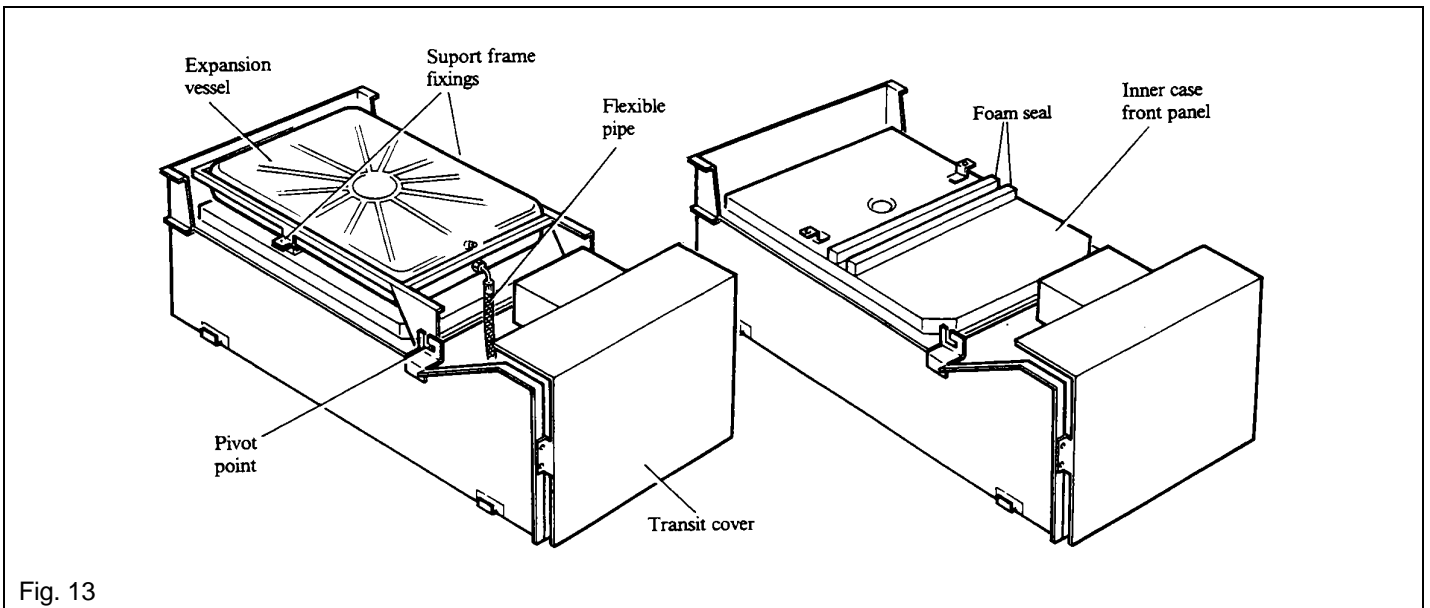

Fig. 13
Refer to Figs. 13 and 14.
1. Disconnect the flexible pipe connection to the bottom of the expansion vessel, take care not to lose the washer. Remove the two screws securing the expansion vessel support frame to the inner case front panel. Holding the vessel and frame swing them out to clear the boiler. Remove the frame and vessel by lifting the frame out of its bottom pivoting point. See Fig. 13. Cut the foam seal in two and stick onto the inner case
front panel just below the depression. See Fig. 13.
- Remove the four screws (two at the top and two at the bottom) securing the inner case front panel and lift off the panel. See Fig. 13.
- Remove the four screws securing the transit cover to the bottom of the boiler, see Fig. 13 and discard the cover and screws.